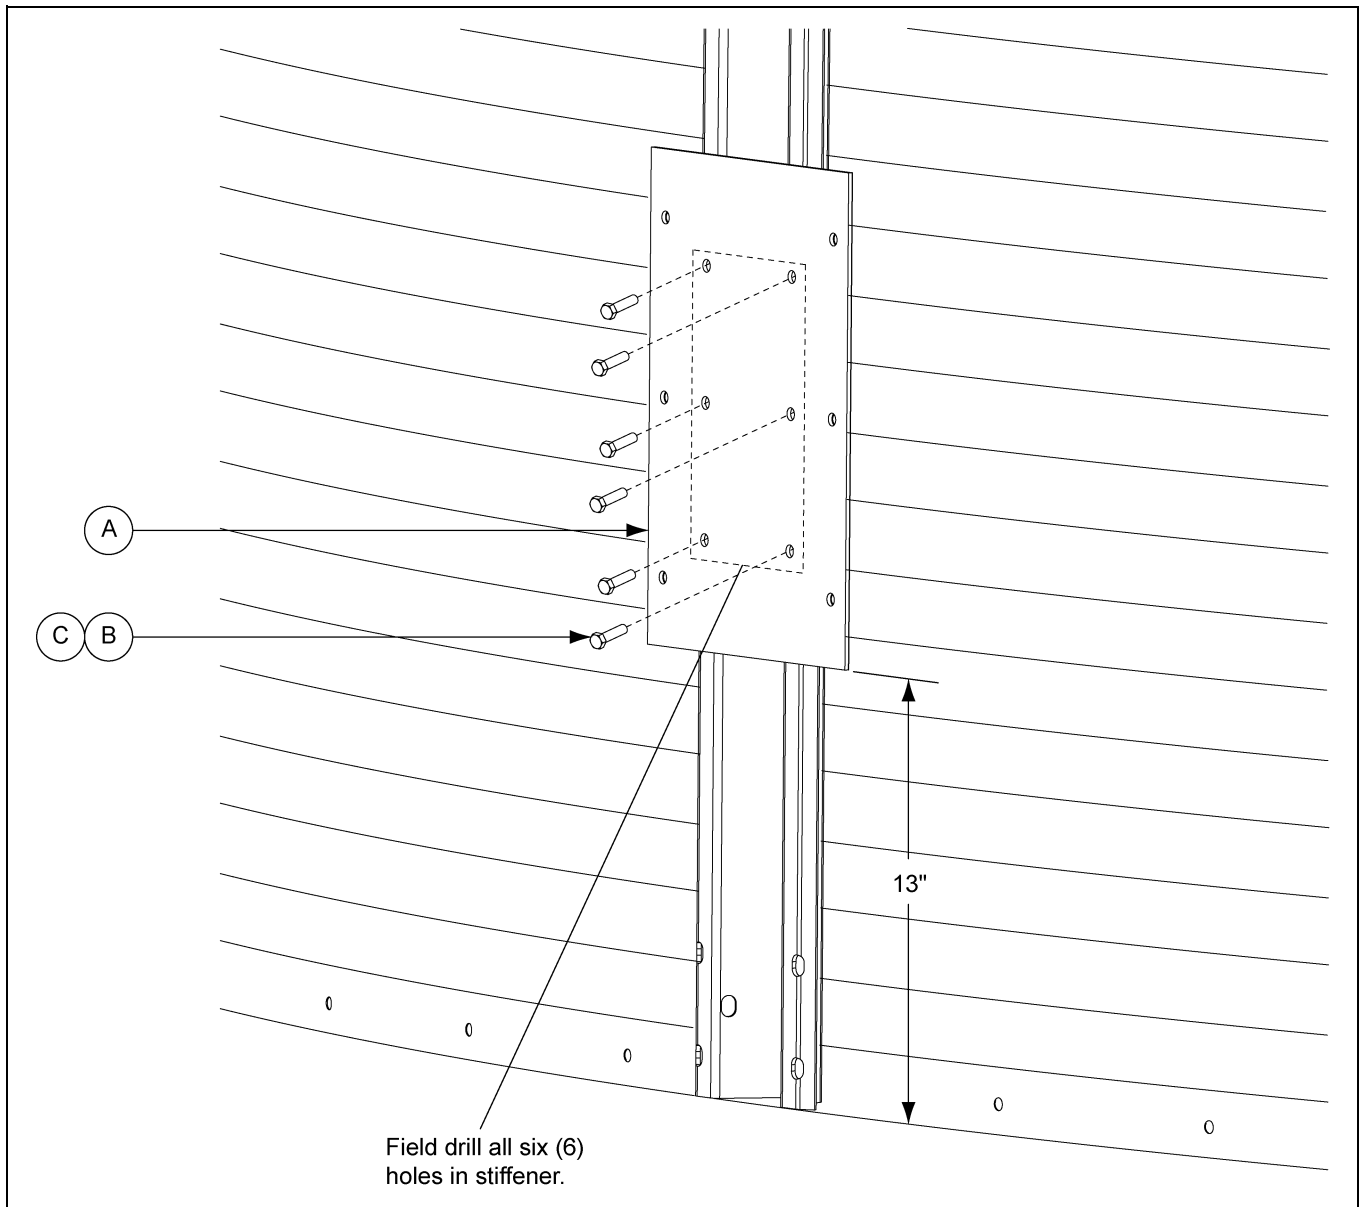

Figure 4D
2. Field drill all six (6) holes in the stiffener using the mounting plate as a template for hole locations, making sure that the holes are drilled on the peaks of corrugation ridge.
3. Attach the stiffener mounting plate (A) using six (6) bolts (B) and nuts (C). (See Figure 4D.)